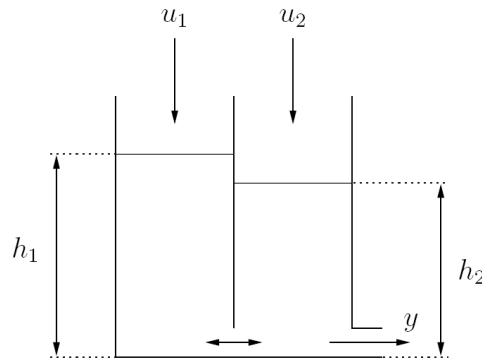

Figure 2.10 Water tank in Problem 2.7.
- 2.7 (*) Consider a water tank with a separating wall. The wall has a hole at the bottom, as can be seen in Figure 2.10.